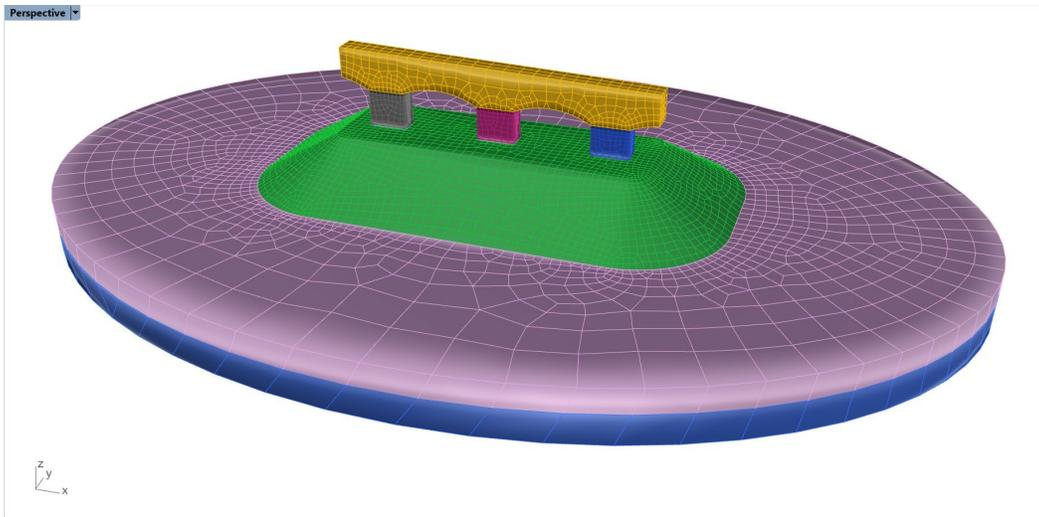

Figure 29: Mesh from Figure 28 “exploded” into sub-meshes, which are subsequently colored.
24. Select all (36) meshes and use *Griddle*'s command **_ColorizeObjects** or click on the  icon in the *Griddle* toolbar. This will assign a unique color to each *Rhino* object (Figure 29).